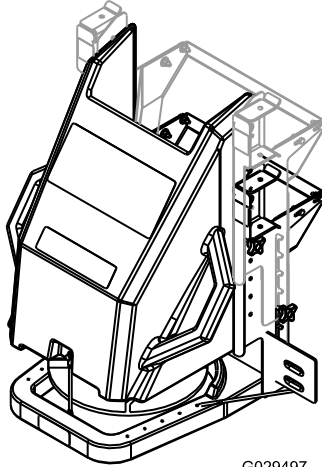

Figure 16
1. Remove the 2 upper thumb screws (Figure 16).